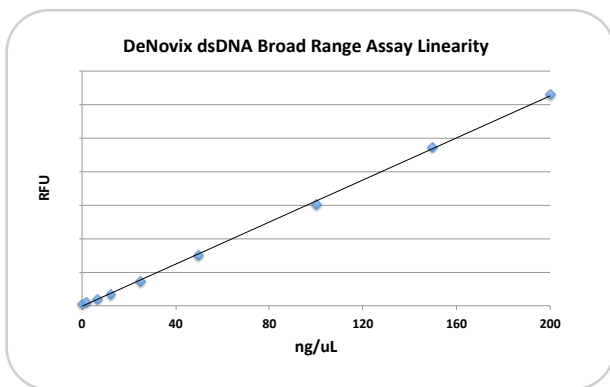

Fig. 2. Calf Thymus DNA measured using the DeNovix dsDNA Broad Range Assay on a DS-11 FX fluorometer.
3. Plot the fluorescence RFU values for the DNA standards on the y-axis and ng/well DNA on the x-axis, and fit a trend line (Figure 2) through these points to generate a standard curve with a y-intercept = 0.